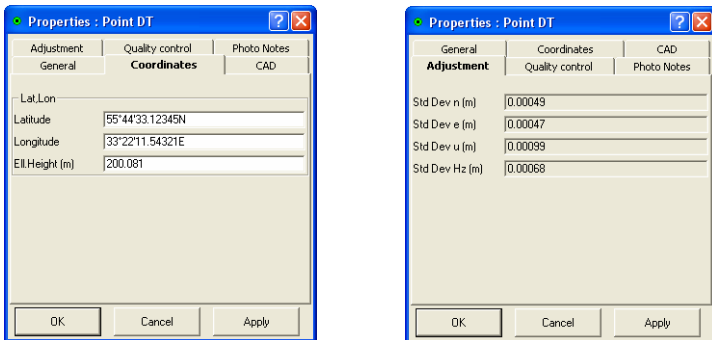

Figure 5-82. Coordinates and Adjustment Properties
4. View or edit *Coordinates* tab fields (Figure 5-82). Available fields depend on the coordinate type selected in Job configuration.
5. View *Adjustment* tab fields for standard point deviations (Figure 5-82).